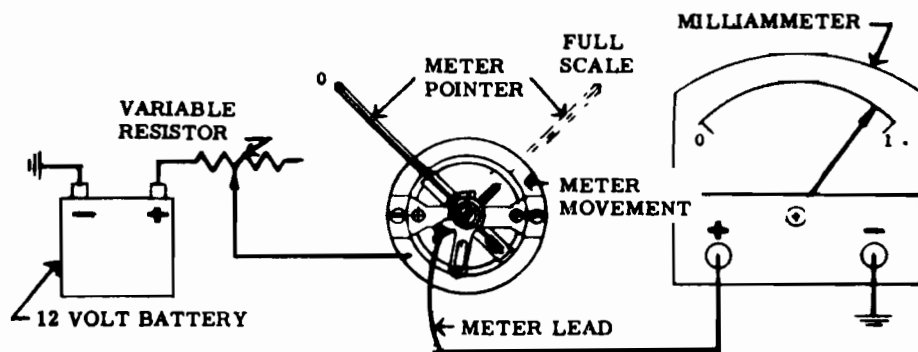

FIGURE 1
TESTING THE METER MOVEMENT (See Figure 1.)
2. Connect battery, variable resistor, meter movement and milliammeter as shown in Fig. 1.